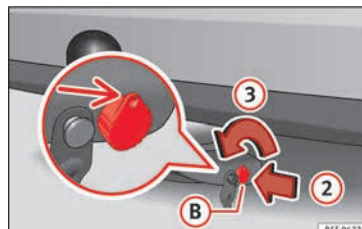

Fig. 227 Releasing the lock
- Insert key ② into the lock in the direction of arrow ② » Fig. 227.
- Turn the key in the direction of arrow ③ until the part of the key with the holes is facing upwards.